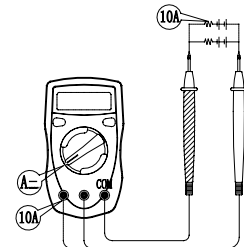

Figure 3
C. DC Current Measurement (see figure 3)